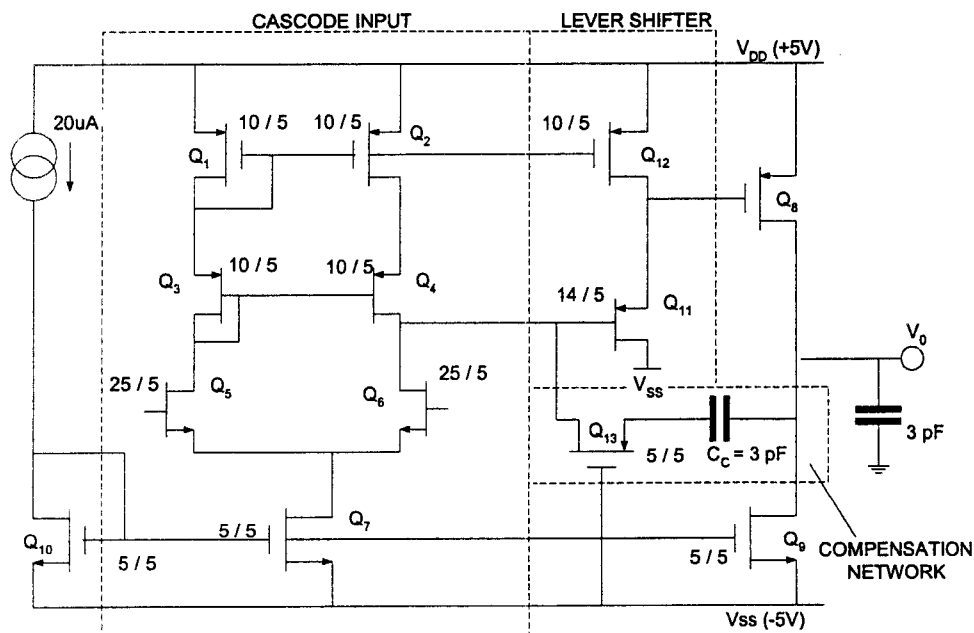

Figure 1
1. (a) Figure 1 shows a partially-designed two-stage CMOS op-amp required to give a voltage gain of approximately 83 dB. Given that the technology is a fixed 5μm length double metal CMOS process, design the channel width of output driver transistor Q8 to achieve the required voltage gain specification. Aspect ratios of all other devices are shown on the circuit. Assume all bulk effects are negligible and that the voltage gain of level shifting buffer Q11 is approximately unity. Device model parameters are given below. [12]
- (b) Estimate the gain bandwidth product and slew rate for your op-amp design. Where would you connect two additional NMOS devices in Figure 1 to significantly increase the voltage gain of the op-amp? [4]